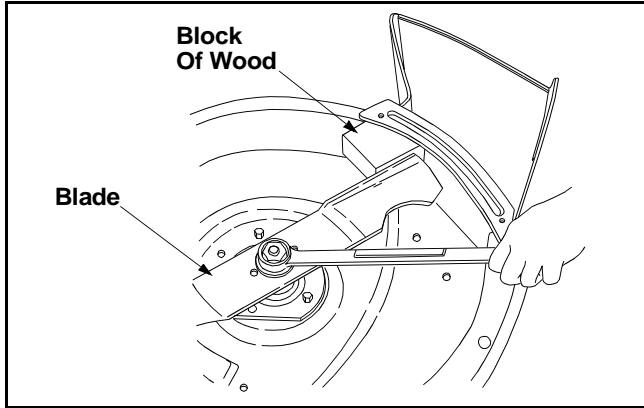

Figure 29
- Secure the mower blade by putting a piece of wood between the blade and the housing. See Figure 29.